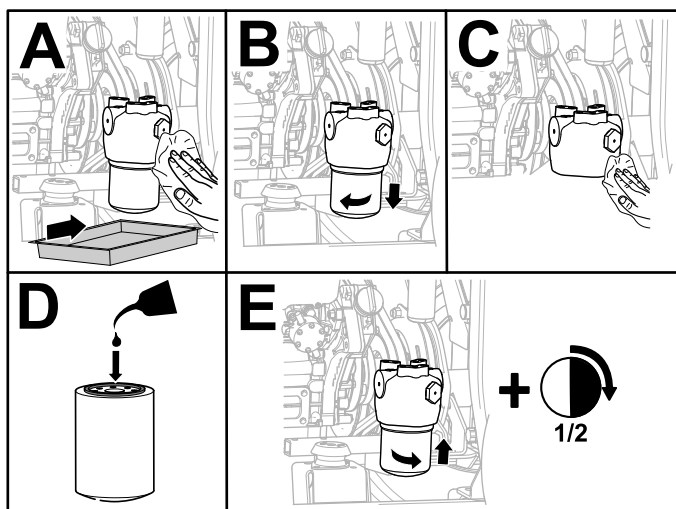

Figure 102
6. Replace the hydraulic filter as shown in Figure 102.